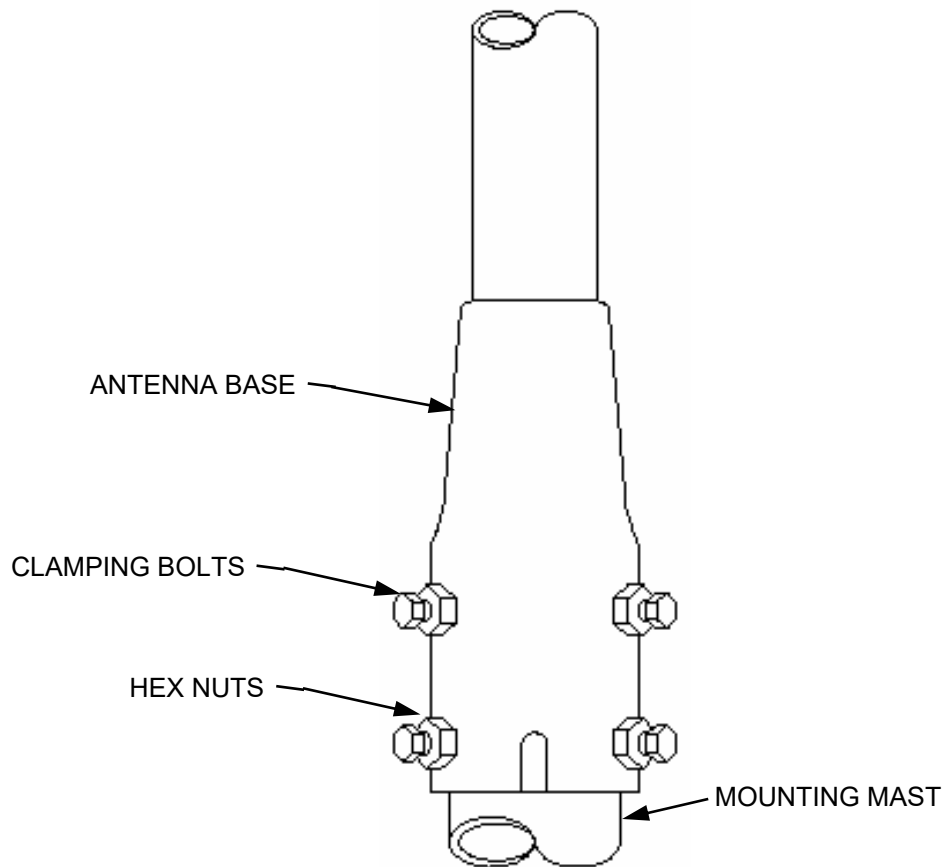

FIGURE 5
1. Install 6 Clamping Bolts and Hex Nuts to the antenna base per Fig.5.